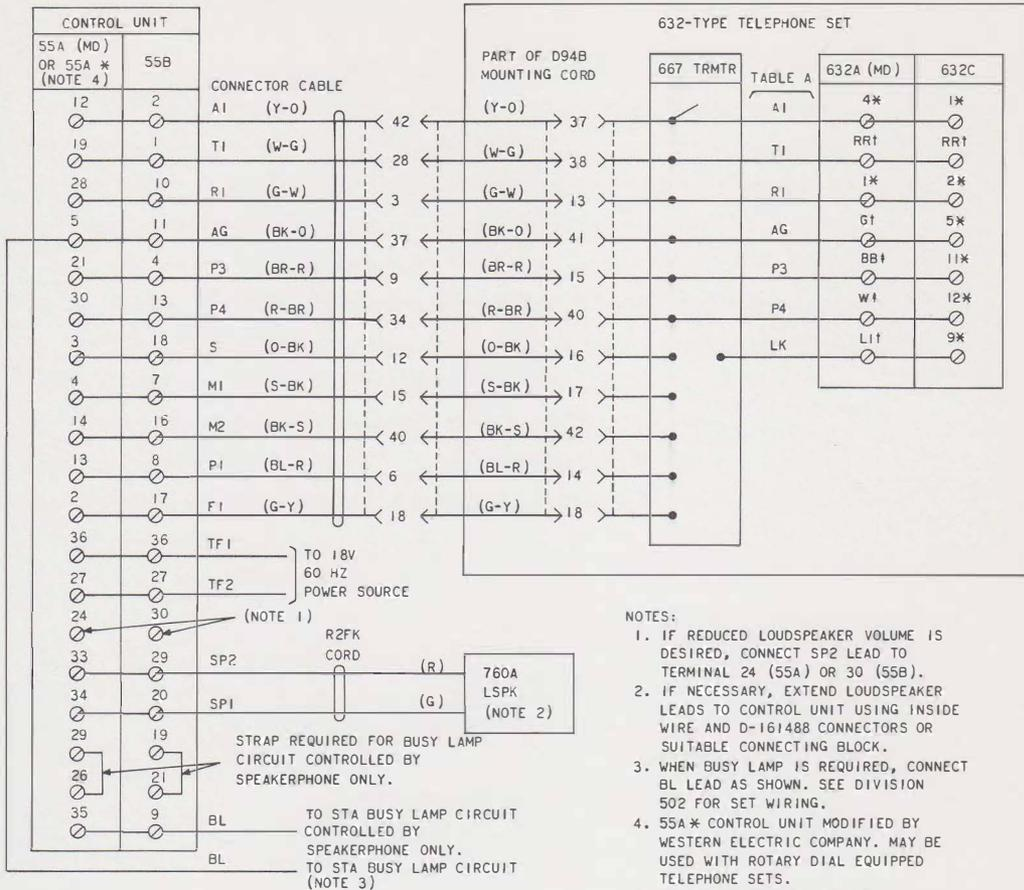

Fig. 1—632-Type Telephone Set, Connections To 3-Type Speakerphone System
- (1) Remove telephone set faceplate assembly and housing. See Section 502-600-100 for procedures.
- (2) Remove key unit or apparatus blank in right-hand module position and plug in a 667B transmitter (ordered separately).
- (3) Connect transmitter spade-tipped leads as shown in Table A and Fig. 1.
- (4) If set is equipped with 8R dial, replace with 8C dial (ordered separately).
- (5) Install housing.
(6) Install new faceplate assembly (ordered separately) in which transmitter cutouts are provided. Refer to Section 502-601-100 (630-, 631-, and 632-type telephone sets) for ordering information.